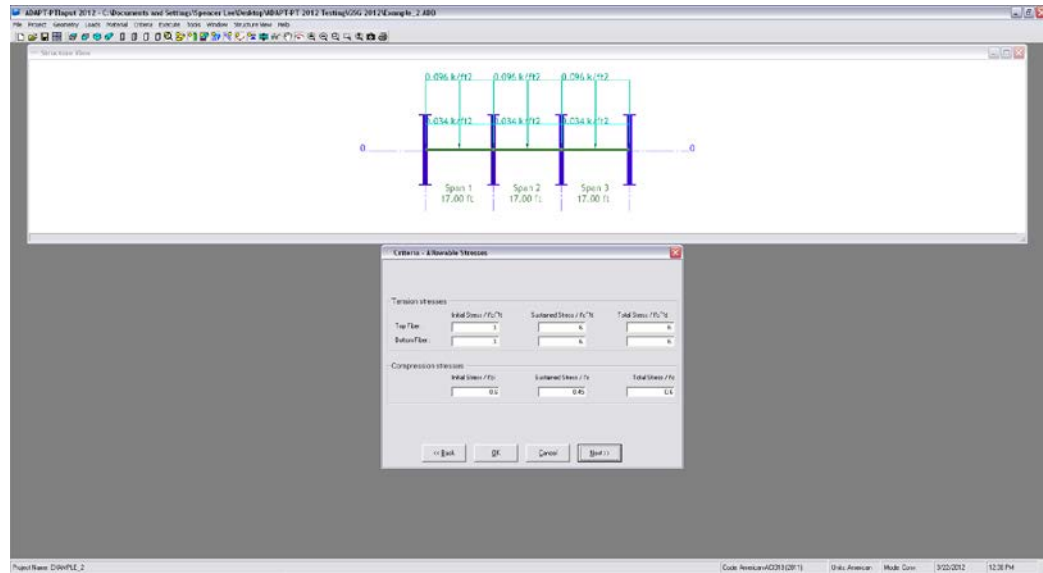

FIGURE 3.1-13
3.1.5.1 Enter The Initial And Final Allowable Stresses. (Fig. 3.1-13)